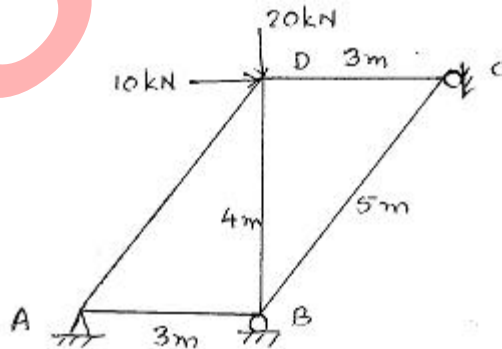

Figure 6
- 16 Analyse the truss show in figure 6. All the members have same axial rigidity. (10)